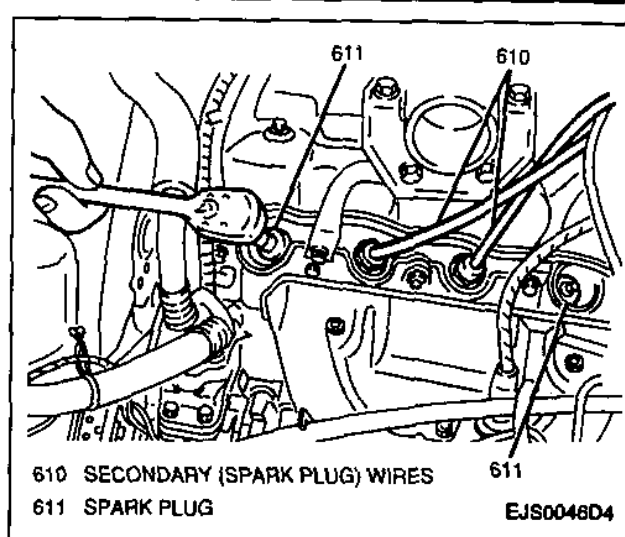

Figure 5—Removing Spark Plugs (Typical)
Figures 5 and 6
3. Spark plug(s) from cylinder head (Figure 5).